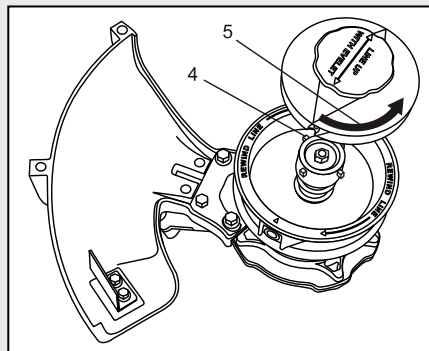

Fig. 7
1. Remove the Power Cell from the line trimmer as outlined in Fig. 7.
1. Align the four slots in the spool under side cavity with the four pins (4) on the bump head shaft and slide the spool into the bump head (Fig. 7).
4. While pressing the spool firmly into the spring loaded bump head housing, rotate the spool knob counter clockwise (5) until it will not turn any further.